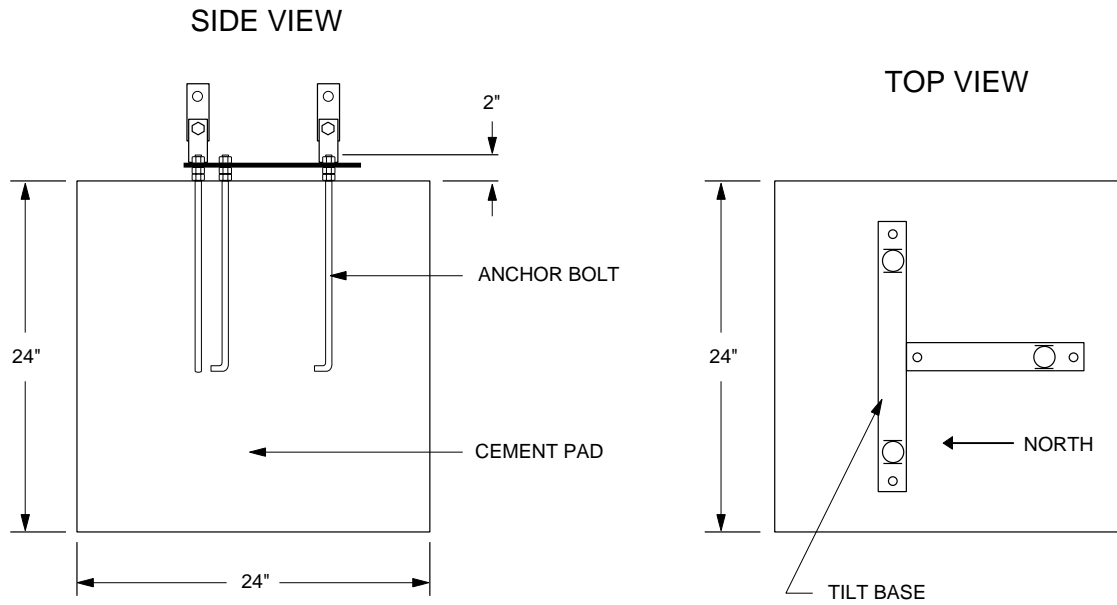

FIGURE 2.1-3. Concrete Foundation and Anchor Bolts
3. Assemble the anchor bolts and tilt base as shown in Figure 2.1-3. There should be two nuts below the base and one nut above.
4. Fill the hole and form with concrete. Screed the concrete level with the top of the form. Allow the concrete to setup enough to support the weight of the base*, then position the base (with the anchor bolts attached) over the center of the concrete foundation and press the anchor bolts into the concrete as shown in Figure 2.1-3. The bottom of the threads should be approximately 1/2" above the concrete. Level the base in both directions using a small level.